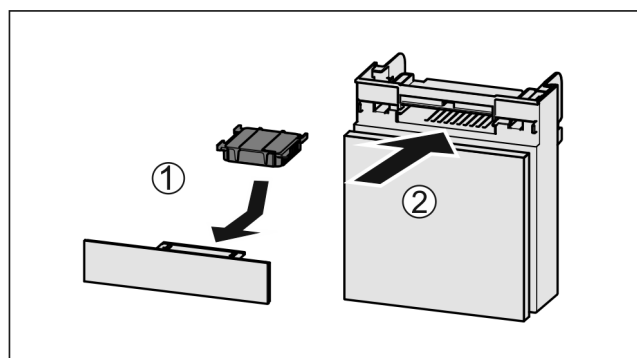

Fig. 106
- Insert the carbon filter as shown in the diagram Fig. 106 (1).
- Push the compartment in Fig. 106 (2).